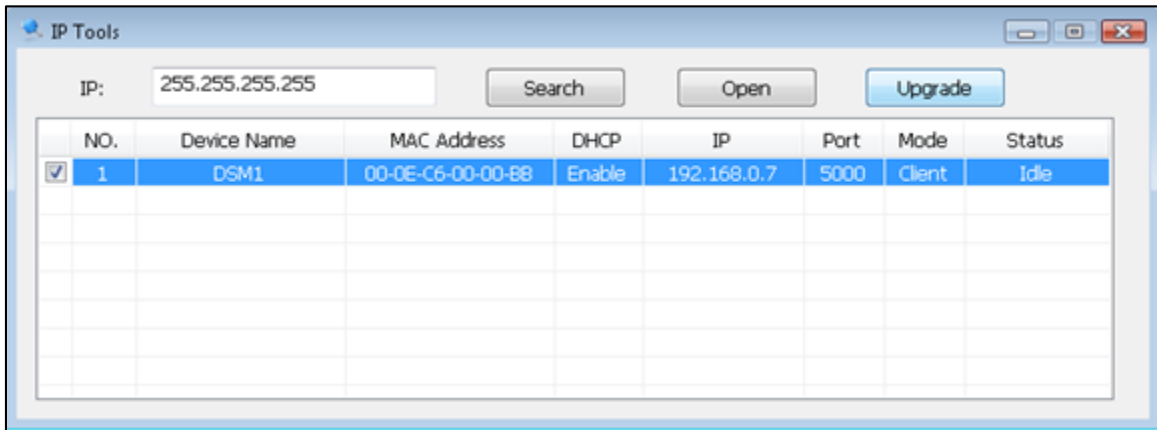

Figure 27
3. Connect to the WeatherSleuth® as per 3.6.4. Select the Upgrade button to begin the firmware upgrade (see Figure 27). As shown in Figure 27, the IP address of the WeatherSleuth® is 192.168.0.7. Make a note of your IP address (your results will vary).